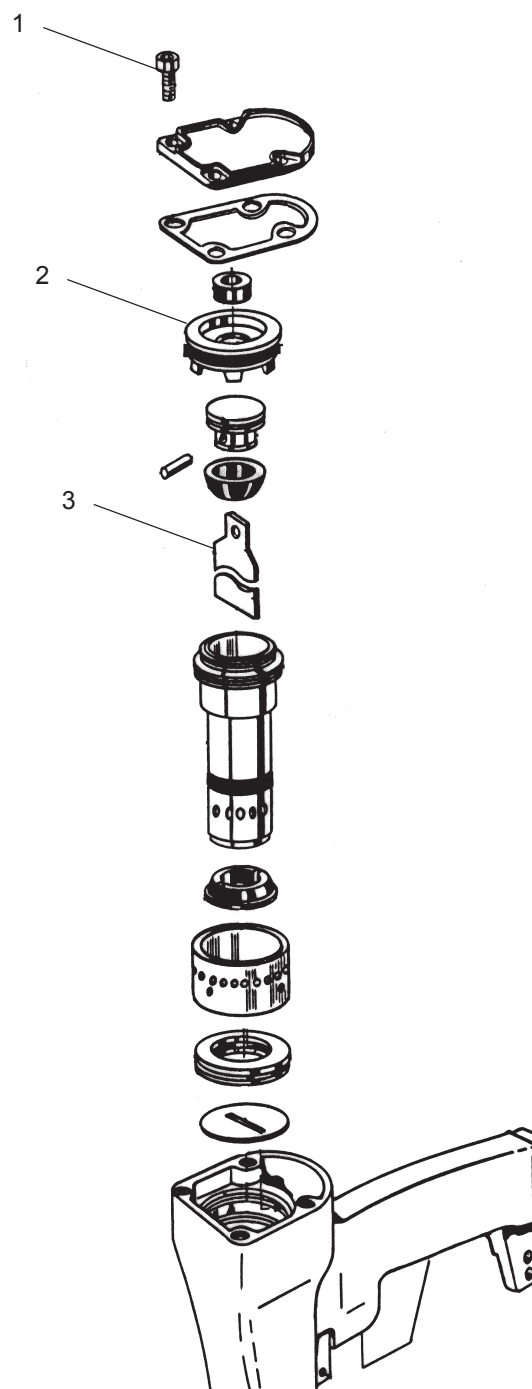

Fig. 8
- Remove the four screws (Fig. 8/1) holding the top cap. Remove the four screws (Fig. 8/1) holding the top cap.